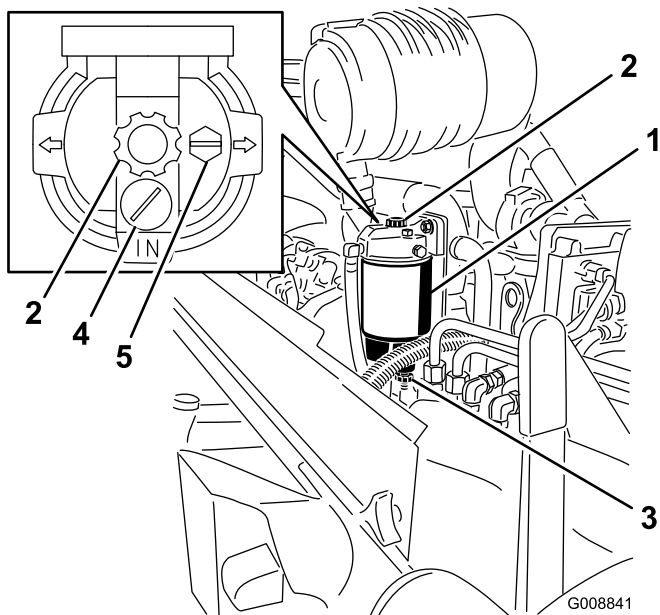

Figure 64
1. Place a clean container under the water separator (Figure 64).
2. Open the drain plug and operate the pump to drain off contaminants (Figure 64).
2. Drain some fuel by loosening the vent plug and opening the drain plug (Figure 64).